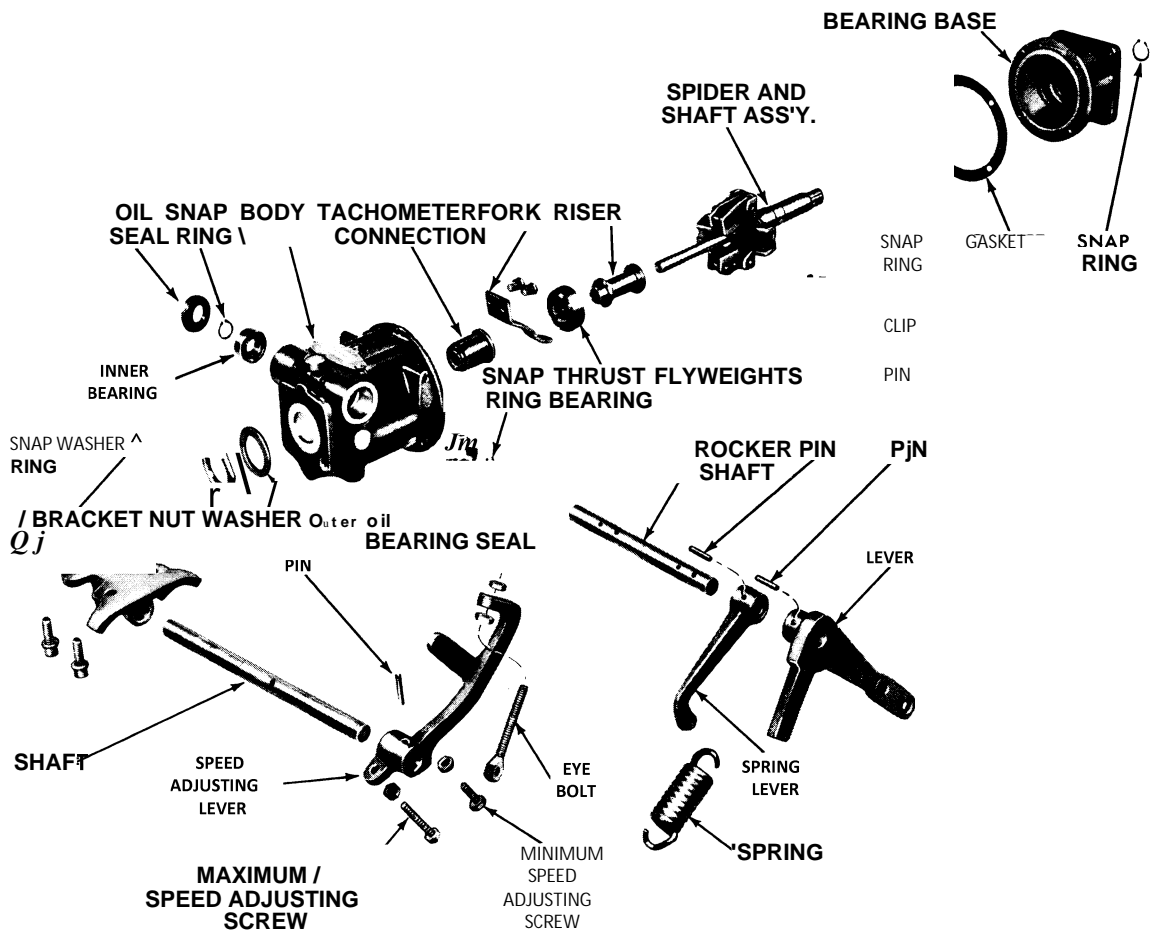

Fig. 2 - Output Shaft Governor Details and Relative Location of Parts
(Fig. 2). Then, install the operating shaft lever (18) and secure it with a washer and retaining nut.
The flyweights (Fig. 2) on the output shaft governor are driven through the operating spider and shaft assembly by the governor drive adaptor. A shoulder on the flyweights bears against the riser that transmits the motion of the flyweights, through the riser thrust bearing, to the operating fork. The operating fork is attached to the rocker shaft that rides in the inner and outer ball bearings. Pinned to the rocker shaft are the spring lever and the rocker shaft lever. Connected to the spring lever is the speed adjusting spring that is, in turn, connected through the eyebolt to the speed adjusting spring lever. The speed adjusting spring lever is mounted on the speed adjusting shaft and is controlled by the engine operator when establishing the desired engine speed.
After removing the governor and before removing any parts from the governor, wash the entire unit with clean fuel oil and dry it with compressed air. Then inspect for worn or damaged parts that can be repaired or replaced without complete disassembly. The output shaft governor may be disassembled by referring to Fig. 2 and proceeding as follows:
After all of the parts have been cleaned and inspected, refer to Fig. 2 and assemble the governor as follows: